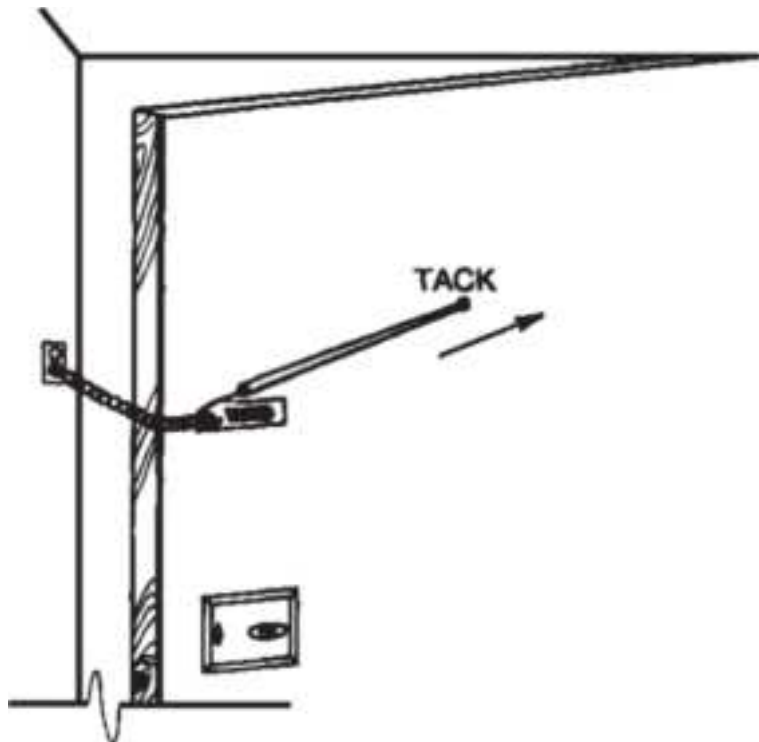

**Figure 17.7** The rubber band technique is usually the easiest way to unlock most chain locks.
1. Reach inside and stick a tack in the door behind the chain assembly (Fig. 17.7).